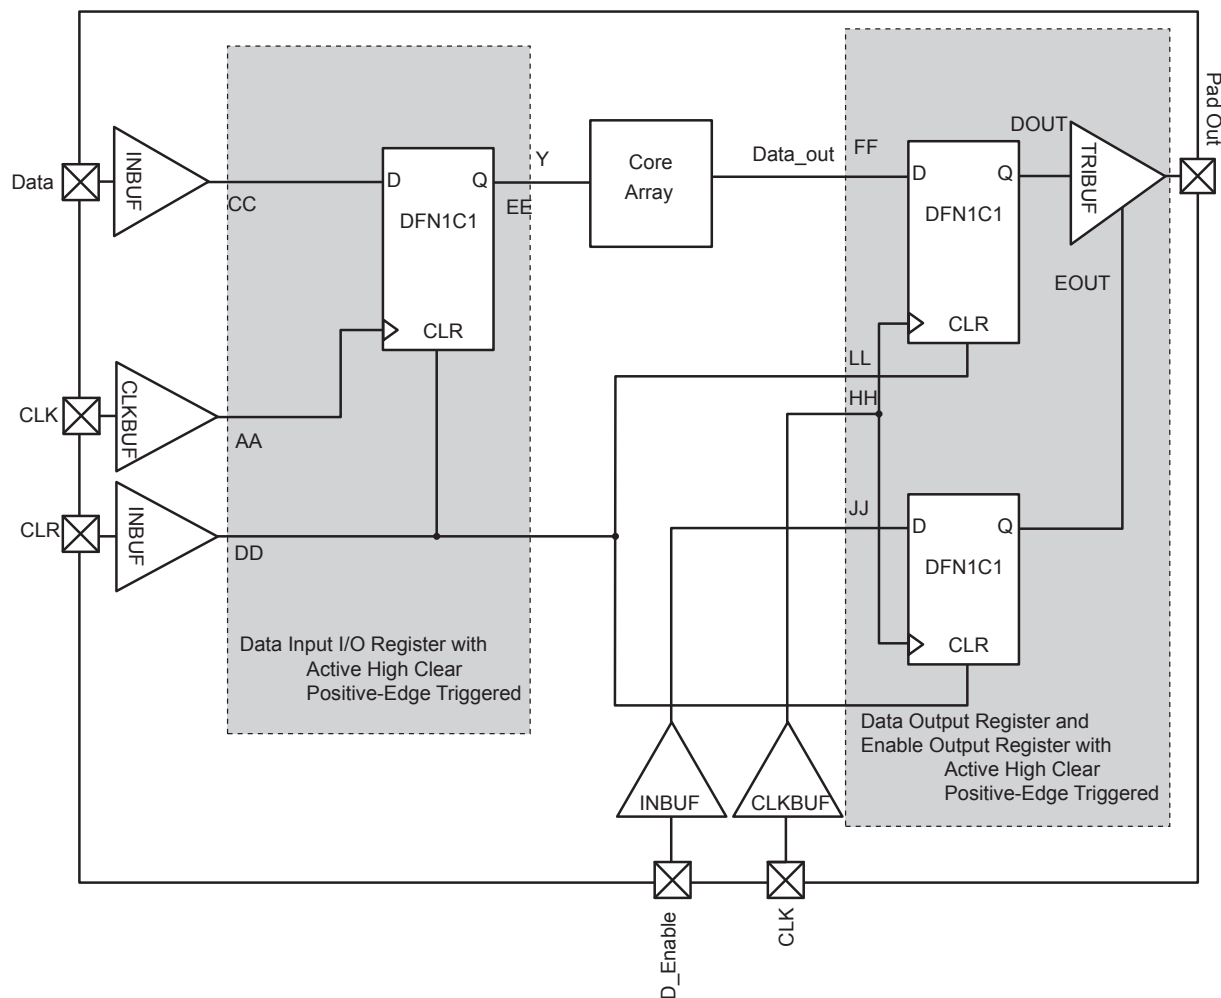

**Figure 2-13 • Timing Model of the Registered I/O Buffers with Asynchronous Clear**
**Note:** \*See Figure 2-13 on page 2-43 for more information.